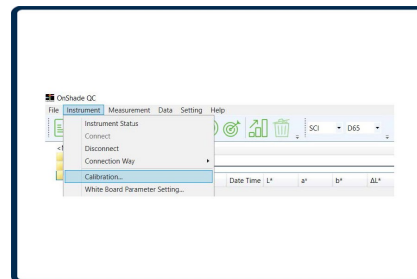

Figure 17: Calibration
1. From the menu select "Instrument" and then "Calibration" or click the Calibration icon from the toolbar see Figure 17.